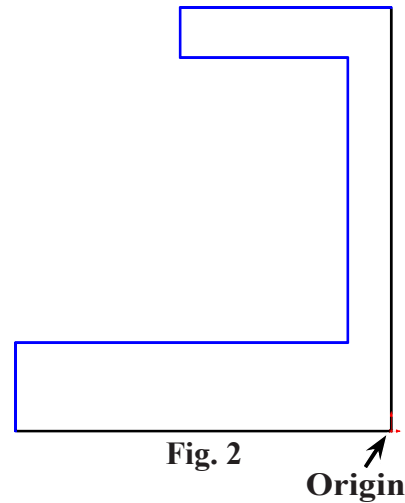

Fig. 2
Step 3. Click **Line**  (L) on the Sketch toolbar.
Step 4. Draw lines starting at the Origin , **Fig. 2**.